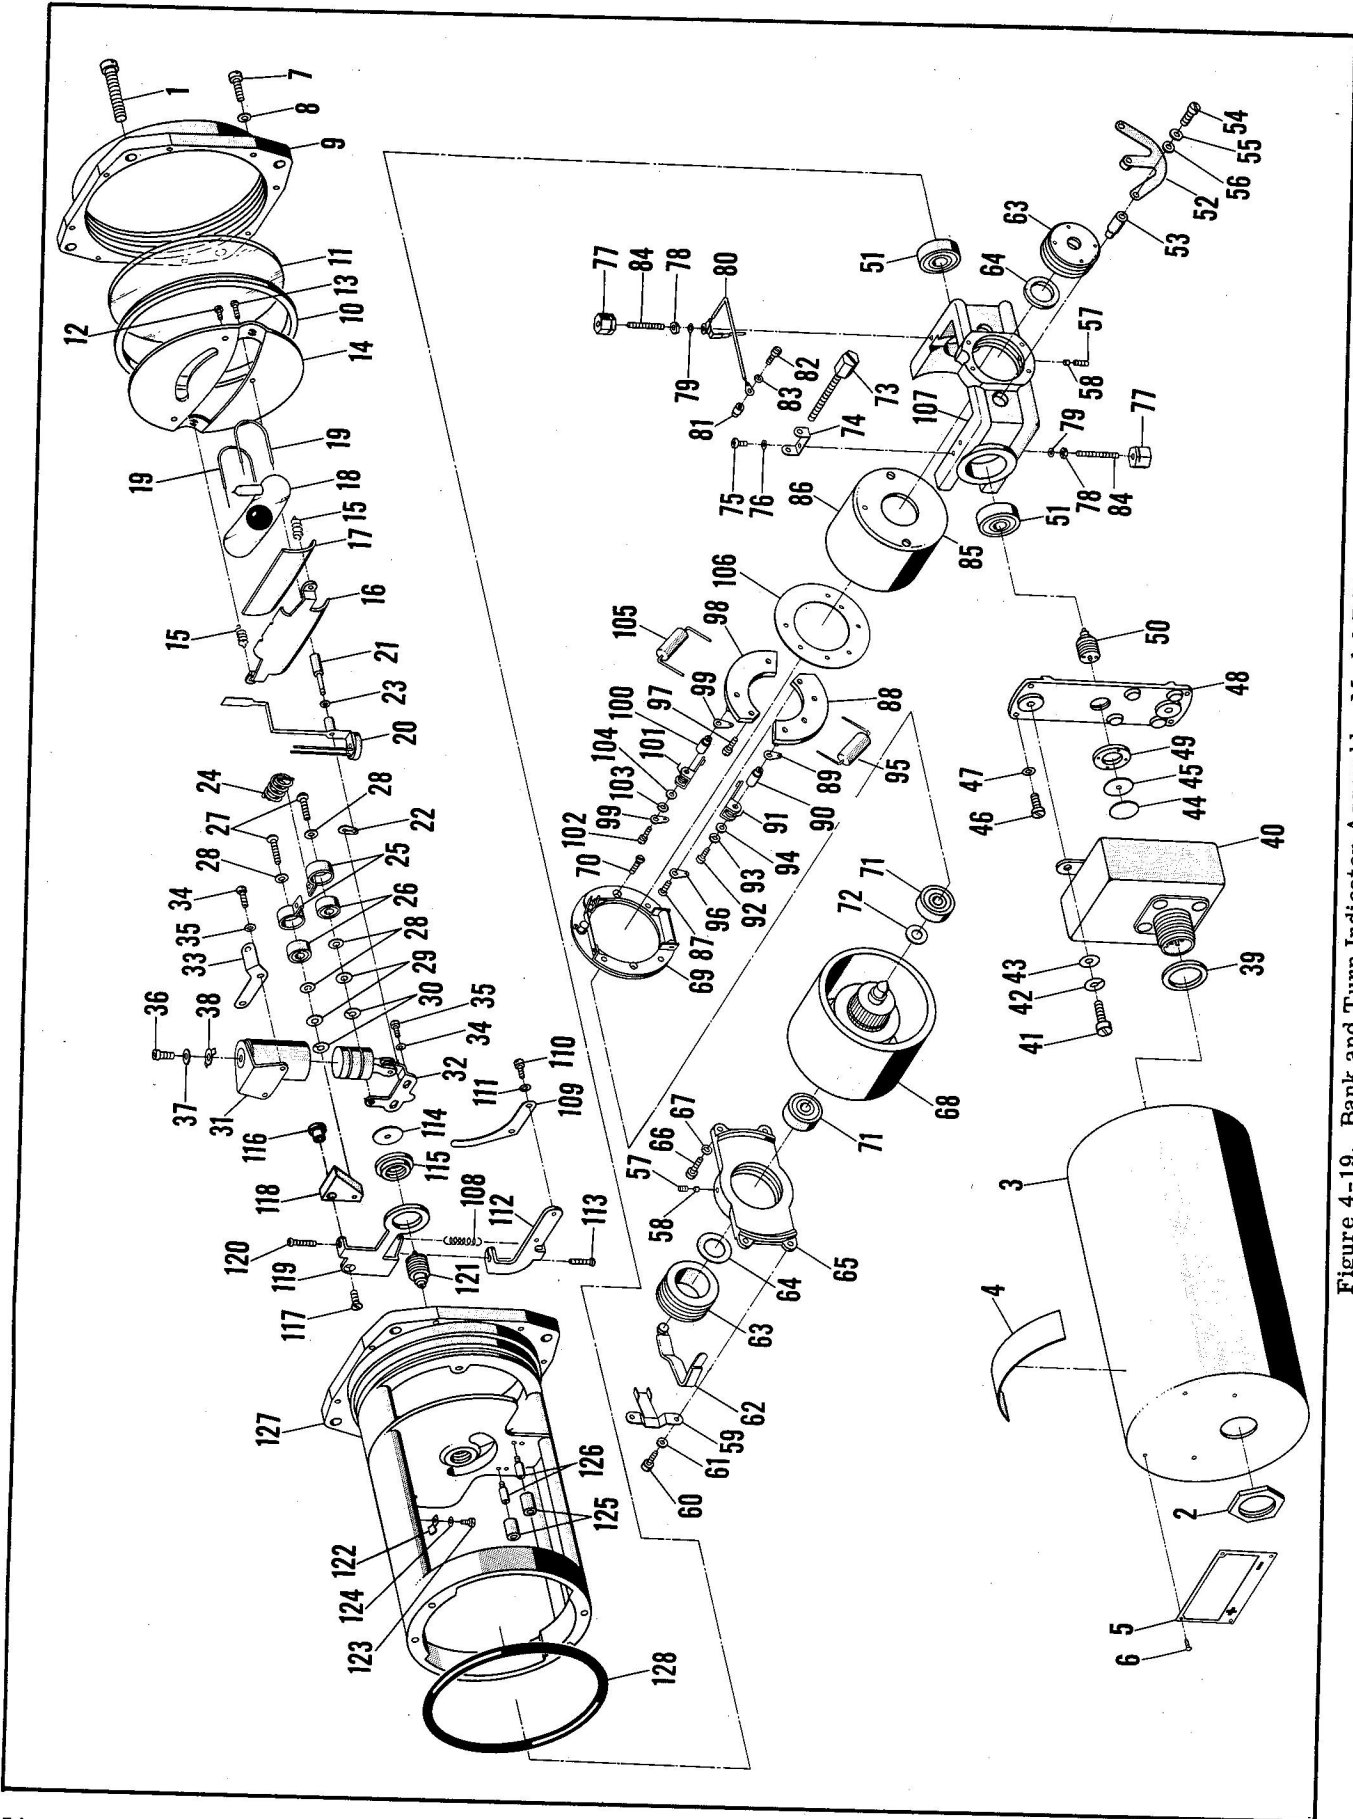
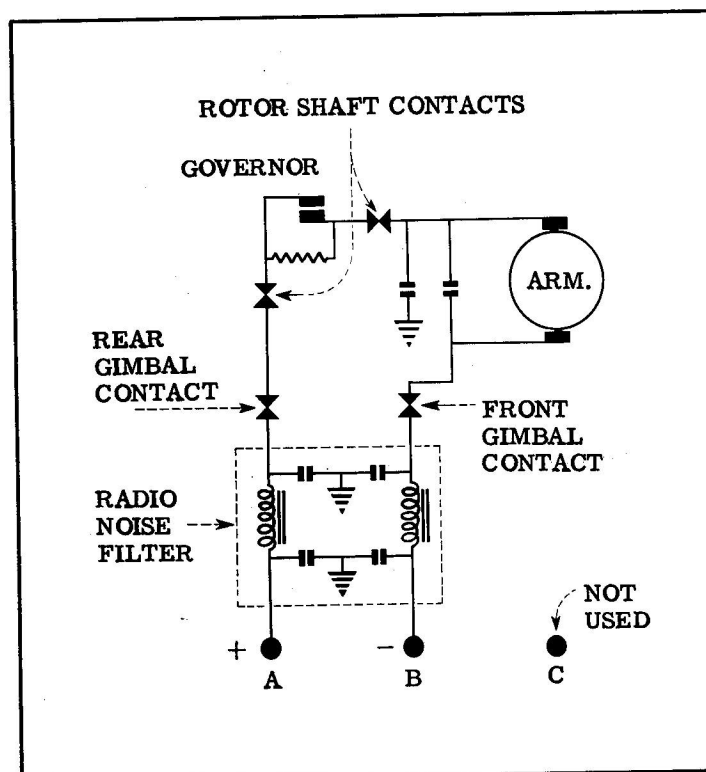

Figure 4-19. Bank and Turn Indicator Assembly, Model B4B-K
Figure 4-20. Wiring Diagram, Model B4B-K
DISASSEMBLY. (See figure 4-19.) Same as Model B4 except that filter assembly (40) replaces individual radio noise filtering components used on Model B4, and insulation (44) is used between insulating washer (45) and the filter assembly. The negative side of the electrical circuit is insulated throughout with insulation (81), and (114), and pivots (90), and (100). Condenser (105) is used between negative brush arm assembly (101) and ground. See figure 4-20 for wiring diagram. Rear plate (48) is mated to frame (127). Gimbal end (65) is mated to gimbal (107).
TEST PROCEDURE. Same as Model B4 except that 28 volts, dc, is used instead of 24 volts, dc. See figure 4-20 for wiring diagram.
KEY FOR FIGURE 4-19